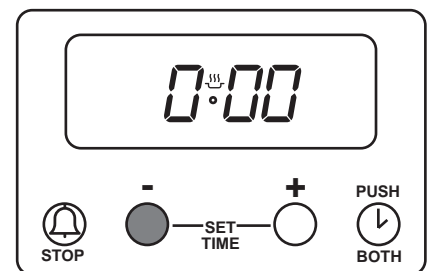

Fig. 10
Press and release button (1). Then press and hold button (1) and the display will count down in one minute intervals to $0^{\text{u}}:00$. See Fig. 10. Release button (1).